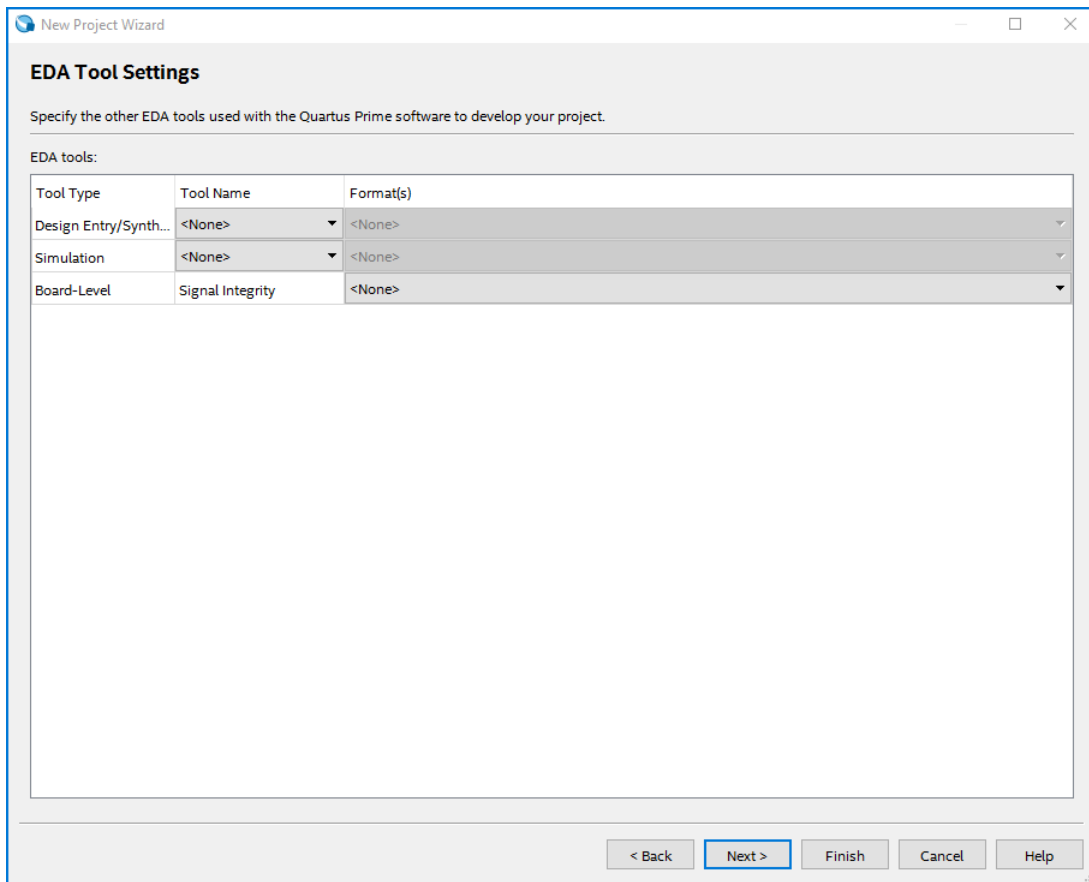

Figure 9. Other EDA tools can be specified.
- We have to specify the type of device in which the designed circuit will be implemented. Choose the Arria-series device family for your DE-series board. We can let Quartus Prime software select a specific device in the family, or we can choose the device explicitly. We will take the latter approach. From the list of available devices, choose the 10AX115N3F45E2SG for your DE5a-NET board. Press Next, which opens the window in Figure 9.